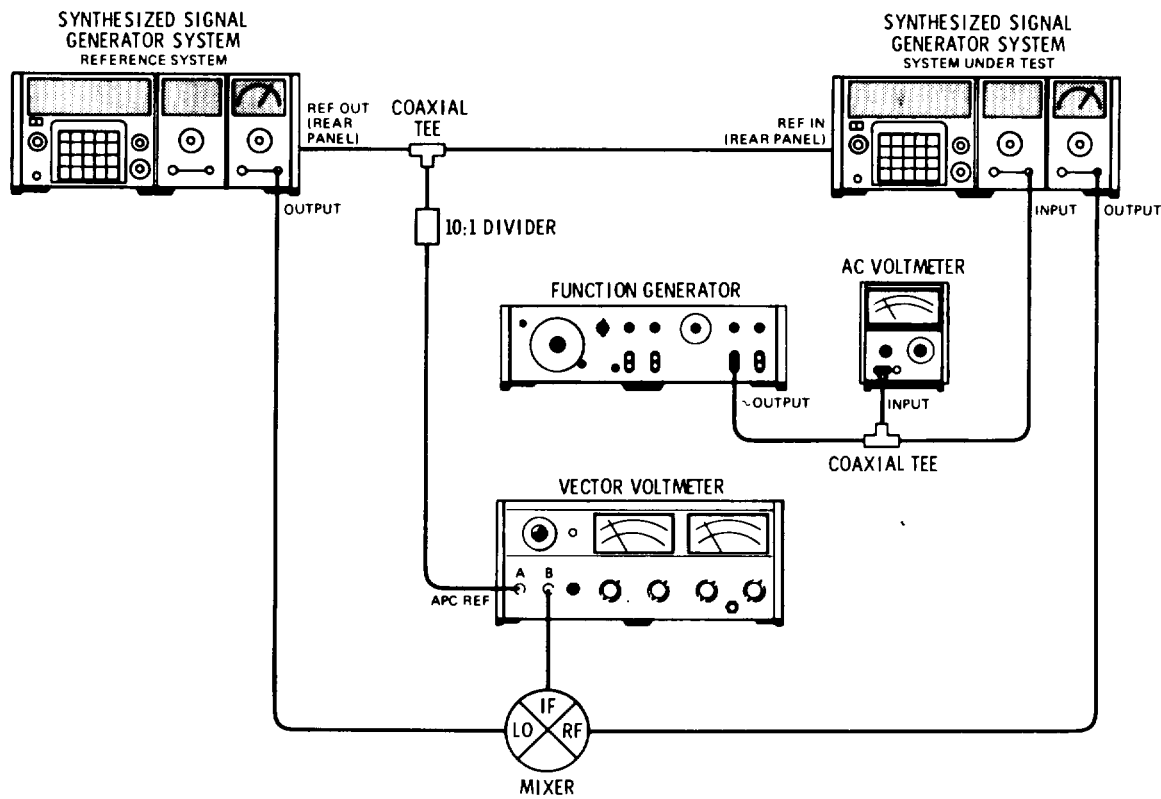

Figure 4-12. Incident Phase Modulation Test Setup
3. Connect the equipment as shown in Figure 4-12.